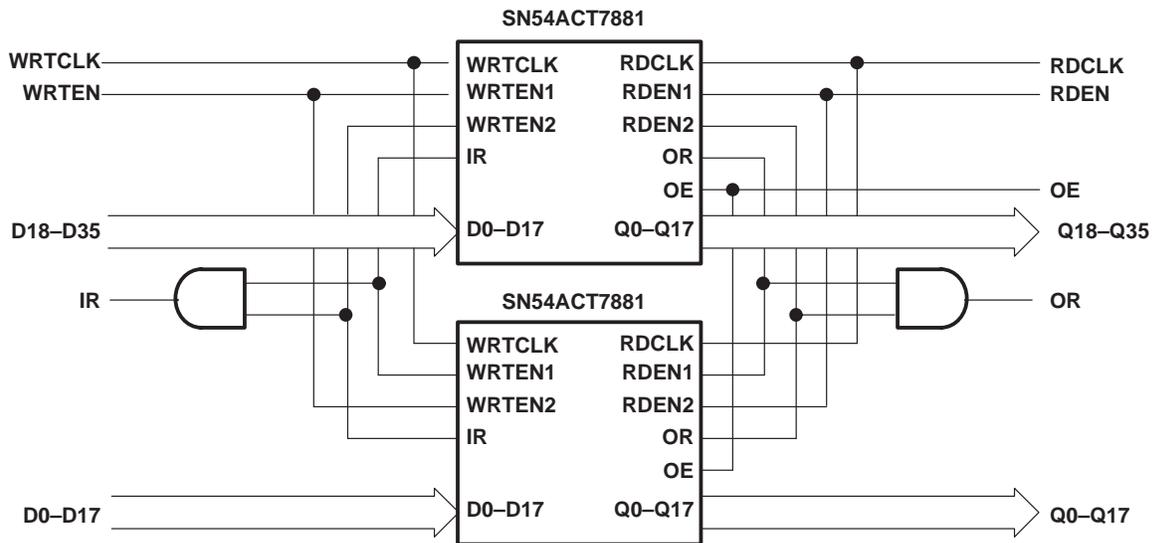

Figure 9. Word-Width Expansion: 1024 Words × 36 Bits
The SN54ACT7881 is expandable in both word width and word depth. Word-depth expansion is accomplished by connecting the devices in series such that data flows through each device in the chain. Figure 9 shows two SN54ACT7881 devices configured for word-depth expansion. The common clock between the devices can be tied to either the write clock (WRTCLK) of the first device or the read clock (RDCLK) of the last device. The output-ready flag (OR) of the previous device and the input-ready flag (IR) of the next device maintain data flow to the last device in the chain whenever space is available.